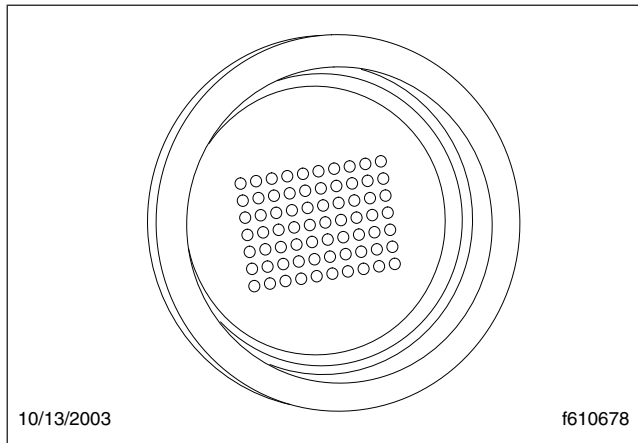

Fig. 14.3, Power-Up Dot Display
3. After the ignition is turned on, the current gear indicator shows the dot display, arranged in a square pattern. All dots in the pattern should light up, without gaps or spaces. See **Fig. 14.3**.